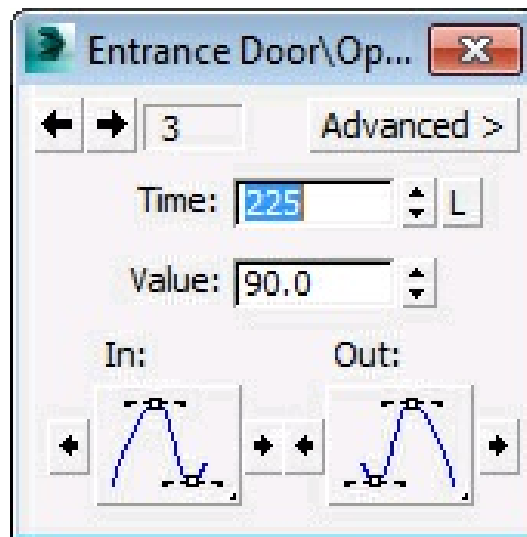

Figure 14-76 The Entrance Door\Open (degrees) dialog box
14. Right-click on the new key; the **Entrance Door\Open(degrees)** dialog box for the new key is displayed, as shown in Figure 14-76.